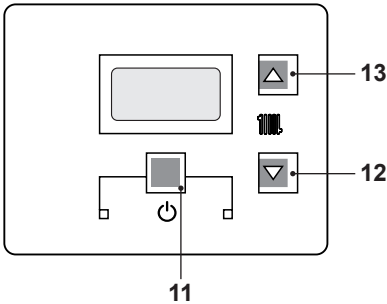
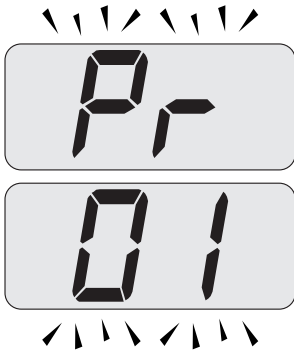
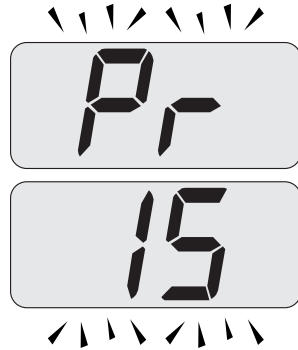
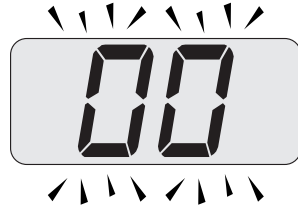

Fig. 7.20
Fig. 7.21
Fig. 7.22
Fig. 7.23
- Enter in "programming mode" by pressing keys 11 - 12 - 13 (Fig. 7.20) for 10 seconds at the same time until the letters **Pr** that alternate with code 01 are displayed on the LCD display, indicating that "parameter 01", has been activated (Fig. 7.21).
- Scroll the various parameters using keys 12 or 13 until the letters **Pr** that alternate with code **15** are displayed on the LCD display, indicating that "parameter 15" (Fig. 7.22) has been activated.
- Press keys 11 and 13 (Fig. 7.20) at the same time until the value of parameter 15 (Fig. 7.23) is displayed on the LCD display.
- By pressing key 11 (Fig. 7.20) confirmation of the inserted value is obtained.
- Press keys 11 and 12 (Fig. 7.20) at the same time to exit without changing the value (return to the parameters list Fig. 7.22).
- Press keys 11 - 12 - 13 (Fig. 7.20) at the same time for 10 seconds to exit the "programming mode".
comfortable, the flow temperature of the heating plant can be increased or reduced by  $\pm 15^\circ\text{C}$  by acting on keys 12 (reduce) and 13 (increase) (Fig. 7.20).